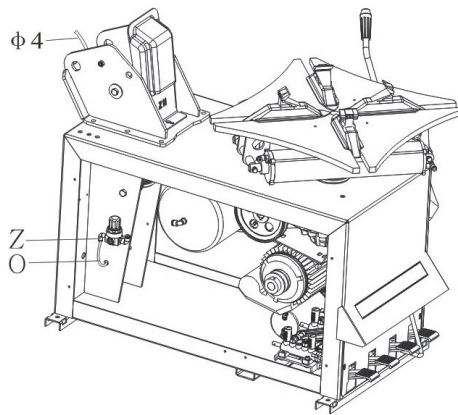

Fig. 8-b
- Connect hose in the column : As fig.8-b , connect $\phi 4$ hose O to regulator Z